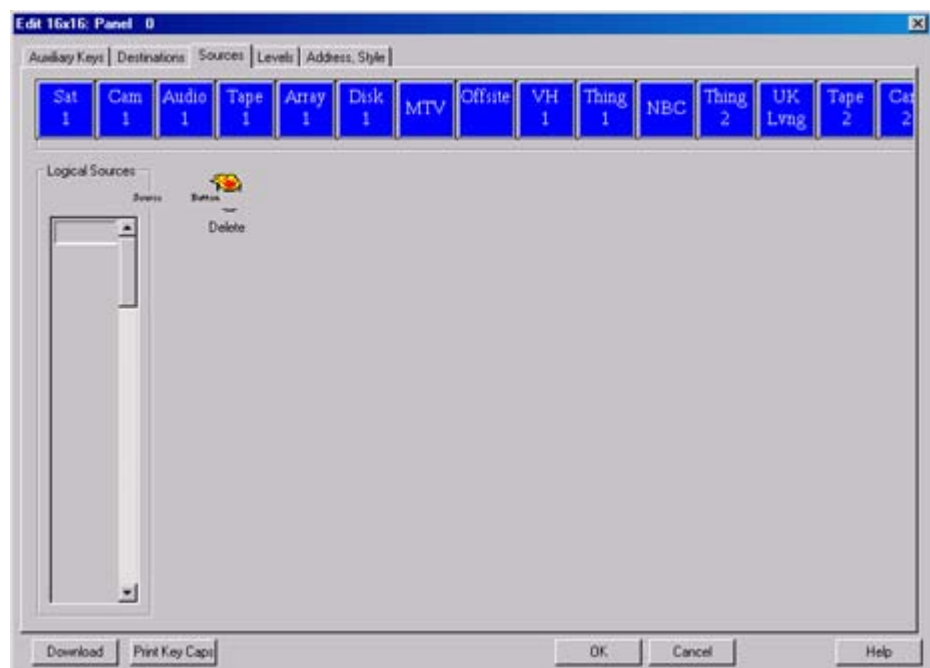

Figure 6. Sources Tab
2. Select the Sources tab (see Figure 6). The Source tab push button key functions match the information set up for the router via the Logical Sources tab. If you want to change these functions: